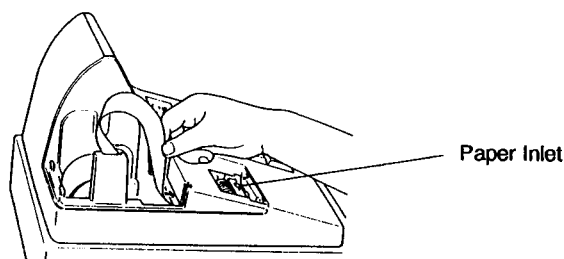

Fig. 3
3. Place the paper roll in the paper holder. Insert the paper end into the Paper Inlet located on the rear side of the printer, and press the [FEED] key on the keyboard until the paper end comes out of the outlet. Meanwhile, the Mode Lock should be set to the "REG" position. (Fig. 3)